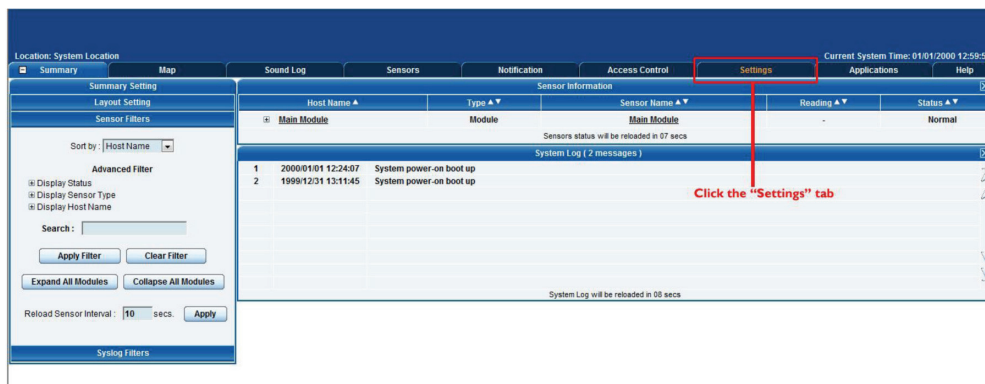

Figure 3-3. Settings tab.
4. Next, the home page will be displayed. It looks similar to the screen shown in Figure 3-3.